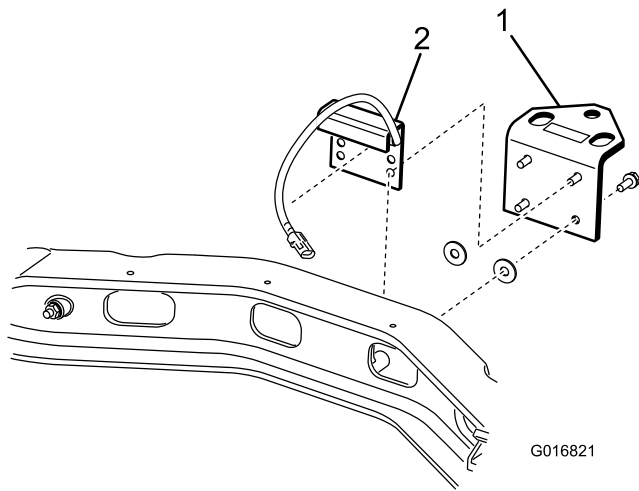

Figure 7
1. Remove the capscrews securing the hitch plate to the rear axle (Figure 7). Using the lower set of mounting holes, loosely mount 2 washers and level switch bracket to rear axle with the capscrews previously removed. The washers are to be positioned between the hitch plate and axle. Tighten all four capscrews.